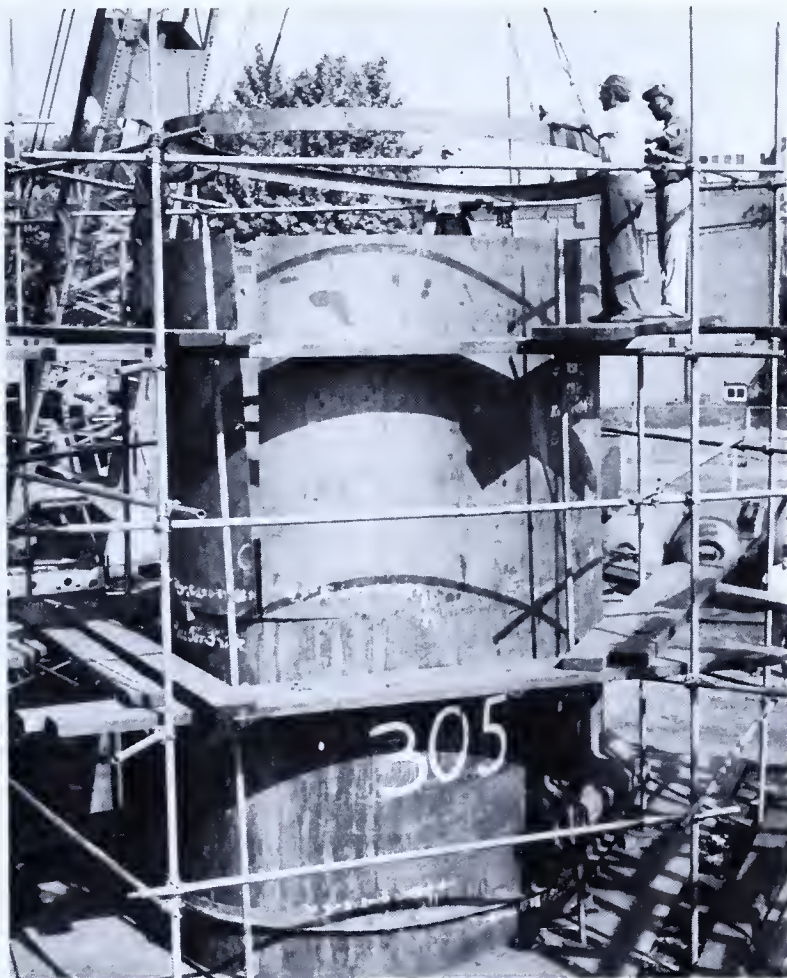

FIG. 584 — *Installing a Curved Angle in a Smoke Stack*
22. Tack weld  $\frac{1}{4}$ " x 3" x 6" pieces of flat bar as mentioned in Step 8 and with crane place angle pc. mk. 16 as shown in Drawing 241-880-3 and Fig. 584.